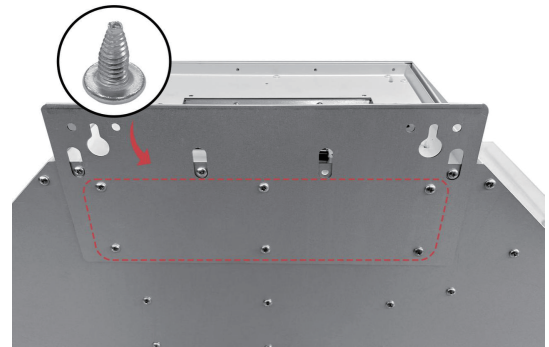

Figure 2
- Make sure the bracket is firmly attached and properly aligned. Figure 2